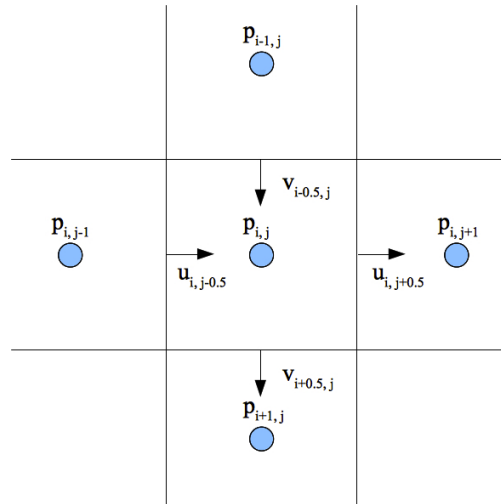

Figure 2: A staggered grid.
*MAC grid* (Marker-And-Cell), which is the approach we'll be using. The idea is to define pressure and dye density at cell centers, and velocities on cell walls. In our 2D case, it means the horizontal velocities are defined on vertical walls, and vice versa (shown in figure 2). With this grid, the differential operator is easily discretized:
The bold face  $\mathbf{u}$  denotes the velocity vector  $(u, v)$ , with the horizontal component being  $u$  and vertical component being  $v$ . Make sure you understand these formula well by looking at figure 2 and/or drawing your own diagrams. You'll need it when implementing this milestone.